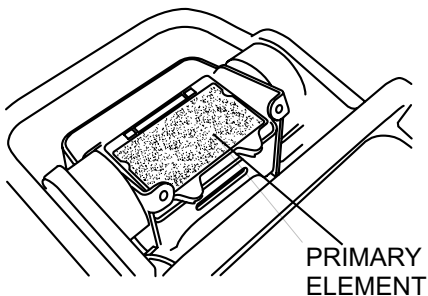

Figure 17. Air Cleaner Primary Element
- Remove the air cleaner cover. Loosen and remove the 2 screws that hold the cover to the air cleaner assembly. If the primary element (Figure 17) is dirty, wash it with gasoline or kerosene. Then dip it in engine oil (SAE10W-30) and wring the element so that 25 to 30 cc of engine oil remains on the element.